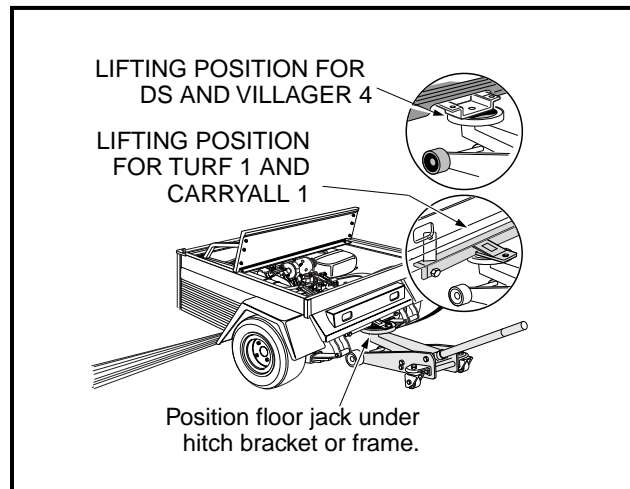

Figure 16-21 Floor Jack
6. Position a floor jack under the vehicle frame crossmember or trailer hitch mount as shown (**Figure 16-21, Page 16-10**).